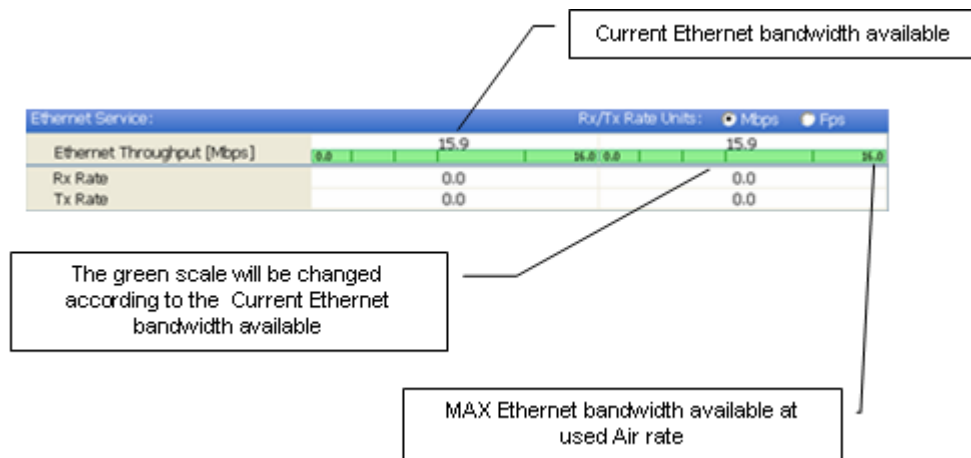

Figure 3-5. Ethernet Bandwidth Indication
- Current Ethernet bandwidth in Mbps. This is not the actual traffic rate, but the maximum capacity that can be supported currently, see Figure 3-5.